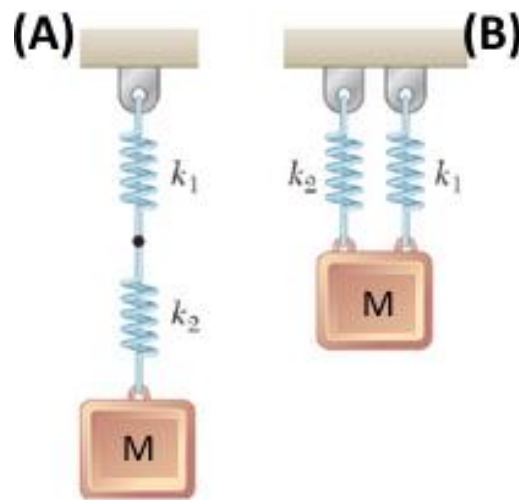

Fig.1.3. (A) Series combination and (B) Parallel combination of two springs having spring constant  $k_1$  and  $k_2$ .
Consider a load suspended through two springs with spring constants  $k_1$  and  $k_2$  in series combination as shown in Fig.1.3 (A). Both the springs experience same stretching force. Let  $\Delta x_1$  and  $\Delta x_2$  be their elongation.
Consider a load suspended through two springs with spring constants  $k_1$  and  $k_2$  in parallel combination as Fig.1.3 (B). The two individual springs both elongate by  $x$  but experience the load non-uniformly. Total load across the two springs is given by